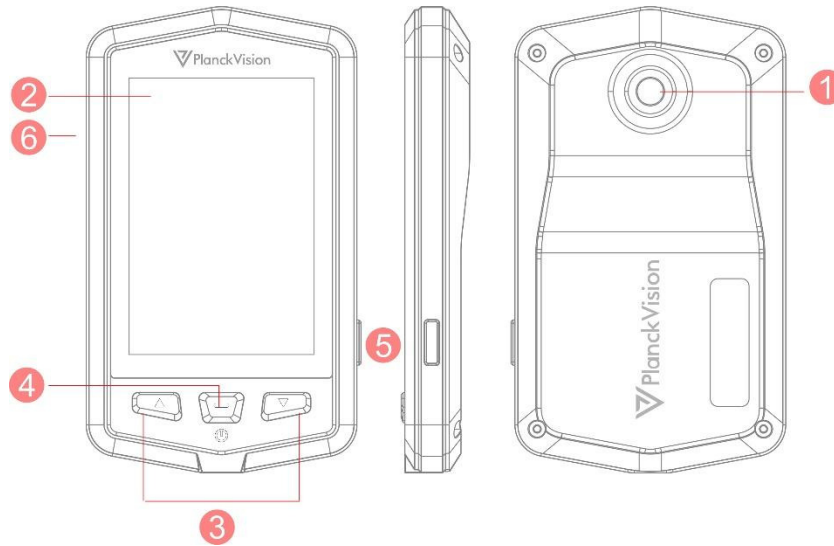

Figure 1 : Key parts of the TC160-LT user interface
Figure 1 labels key parts of the TC160-LT user interface.
Press and hold Power/Select button Figure 1-(4) to turn on/off the camera.
2. Camera may be hard reset by simultaneously holding down the Power/Select button Figure 1-(4) and Snapshot button Figure 1-(5) for 20 sec.
Use the front panel Up/Down arrow buttons Figure 1-(3) to scale the head box to the subject's face size.
To take a picture, press the Snapshot button Figure 1-(5)